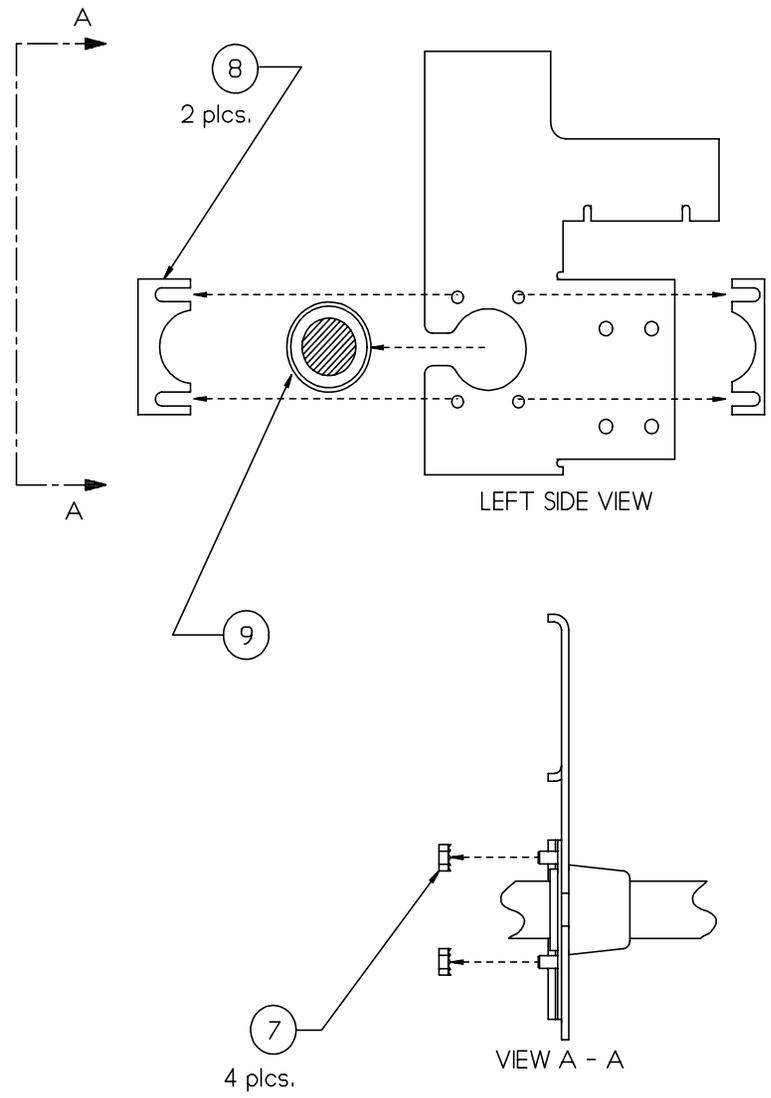

Figure 14
7. On the Mtg. Bracket’s inside face, locate the 2 cable mtg. clamps which fit into the slot of the Arm Cable’s rubber strain relief, and note the hex nuts (on the threaded studs) which secure these cable mtg. clamps. Remove the hex nuts (4 total) from the threaded studs. See Figure 14.
8. Remove the 2 mtg. clamps. See Figure 14.
9. Remove the Arm Cable’s strain relief from the circular notch in the Mtg. Bracket and detach the cable from the Mtg. Bracket. See Figure 14.
14. On the inside face of the Interconnect Mtg. Bracket, locate the 2 cable mtg. clamps which fit into the slot of the Arm Cable's strain relief, and note the hex nuts (on the threaded studs) which secure these cable mtg. clamps. Remove the hex nuts (4 total) from the threaded studs, then remove the 2 mtg. clamps, as shown in Figure 14 previously.
15. Remove the Arm Cable's strain relief from the circular notch in the Mtg. Bracket, as shown in Figure 14 previously.